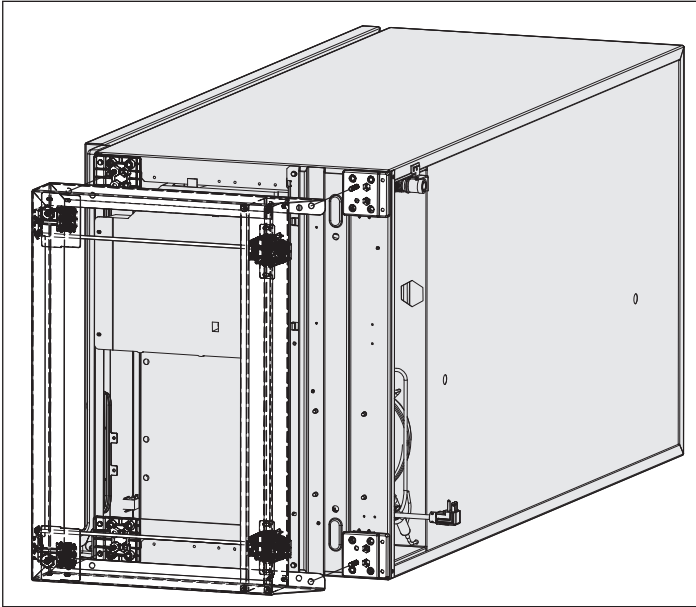

Figure 2-24.
9. Now that all the spacers are assembled on the unit, you may position the riser on the bottom of the unit, making sure the slanted end is toward the back of the unit. See Figure 2-24.